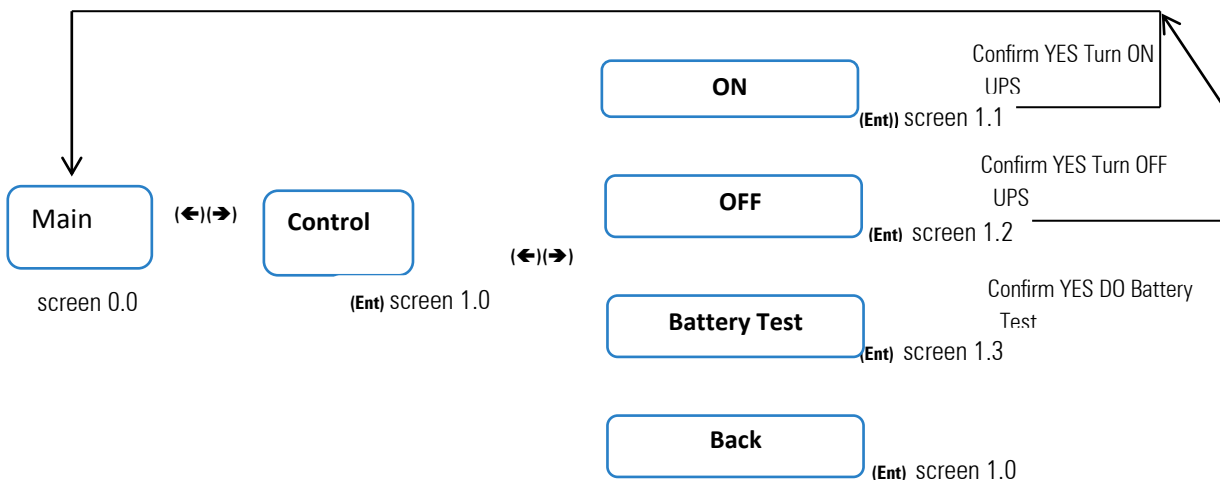
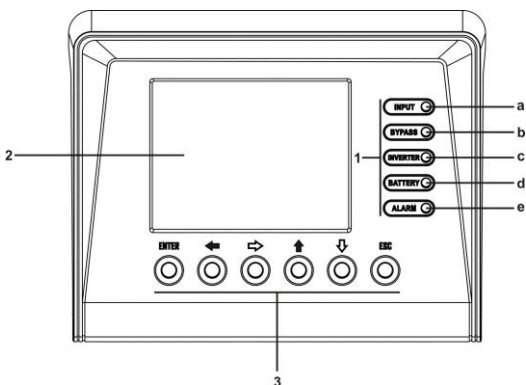

Fig.38. Procedure start-up / shutdown.
Fig.39. LED indications control panel (PC)
- Shutdown the inverter. Through the keypad of the control panel ((3) from Fig. 39), go down to «CNTL» submenu (screen 1.0), and select «OFF». You will get to screen 1.2, asking you to shutdown the unit by pressing (ENT), see Fig 38
- Shutdown the inverter. Through the keypad of the control panel ((3) from Fig. 39), go down to «CNTL» submenu (screen 1.0), and select «OFF». You will get to screen 1.2, asking you to shutdown the unit by pressing (ENT), see Fig 38.
- Remove the screws to that fixes the mechanical block (BL).
- Remove the mechanical block (BL) of the manual bypass switch (Q5) and set it to «On» position.
- Start up the inverter. The start up operation will be done through the keypad of the control panel ((3) from Fig. 39). Select «CNTL» and Press(ENT) into control submenu (screen 1.0), and then select «ON» and Press(ENT) once. You will get to screen 1.1, asking you to start the unit up yes or not, you can select Yes and pressing (ENT). See screen diagram (Fig. 39).